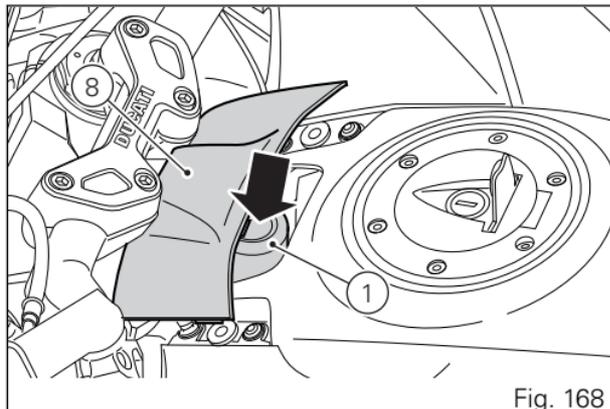
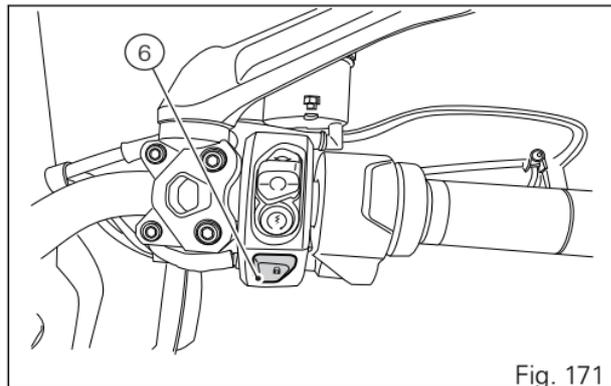

Fig. 168
Fig. 171
(Fig. 168) indicates the position of the Hands Free unit (1), with protection lid (8) and (Fig. 169) indicates the position of the antenna (2) under panel (9) at the key symbol.
Key-Off occurs when the speed of the motorcycle is equal to zero, by pressing button (6, Fig. 171) on the handlebar or by pressing the Hands free button (1, Fig. 168). When speed is not equal to zero, perform key-off by pressing the Hands free button (1, Fig. 168).